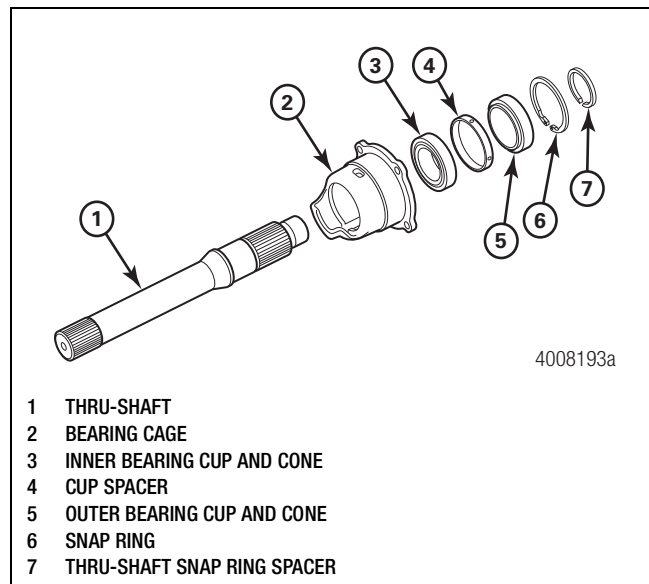
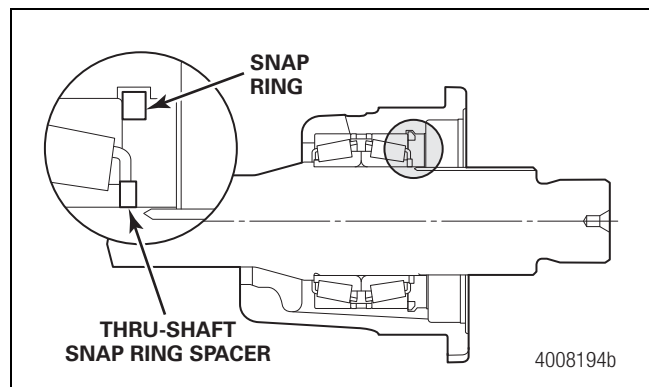

Figure 3.15
Figure 3.16
2. Remove the thru-shaft snap ring spacer from the thru-shaft. Figure 3.15 and Figure 3.16.